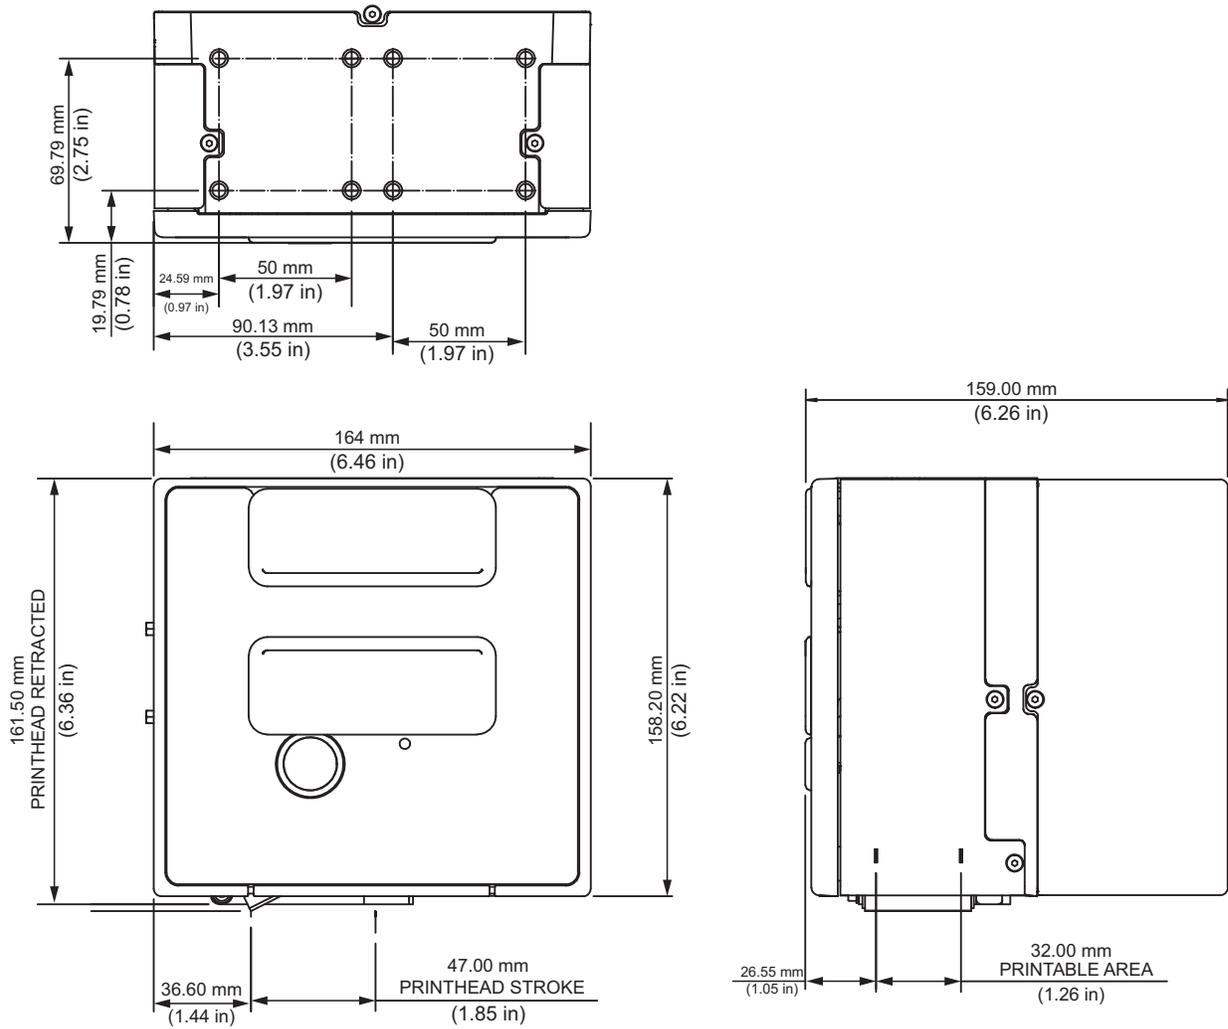

Figure A-1: 32 mm RH Printer Dimensions
Figure A-1 shows the dimensions of the 32 mm (RH) printer.